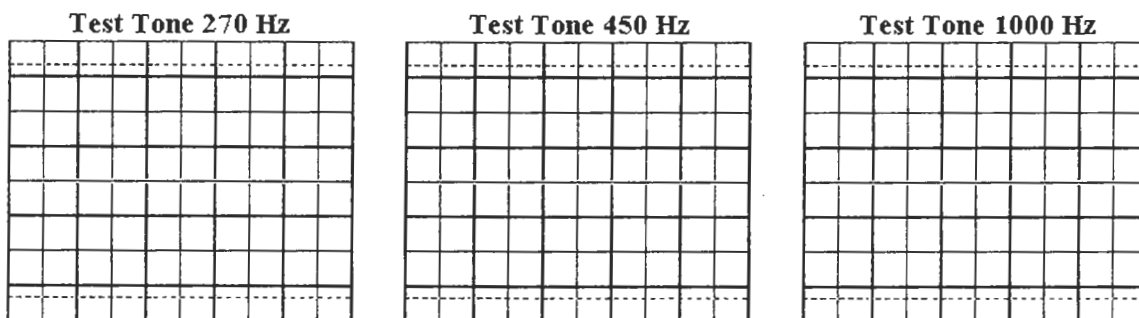

Figure L49-17
- Adjust the voltage output and redraw each of the tones at 50 mV on the scope faces provided in Figure L49-17.